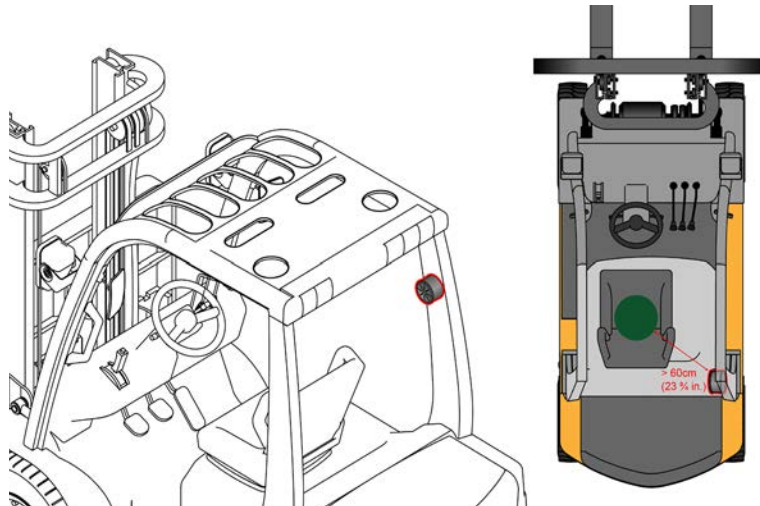

Figure 19: Speaker installation
2. VIA recommends installing the speaker on one of the rear C-pillars as shown in Figure 19.